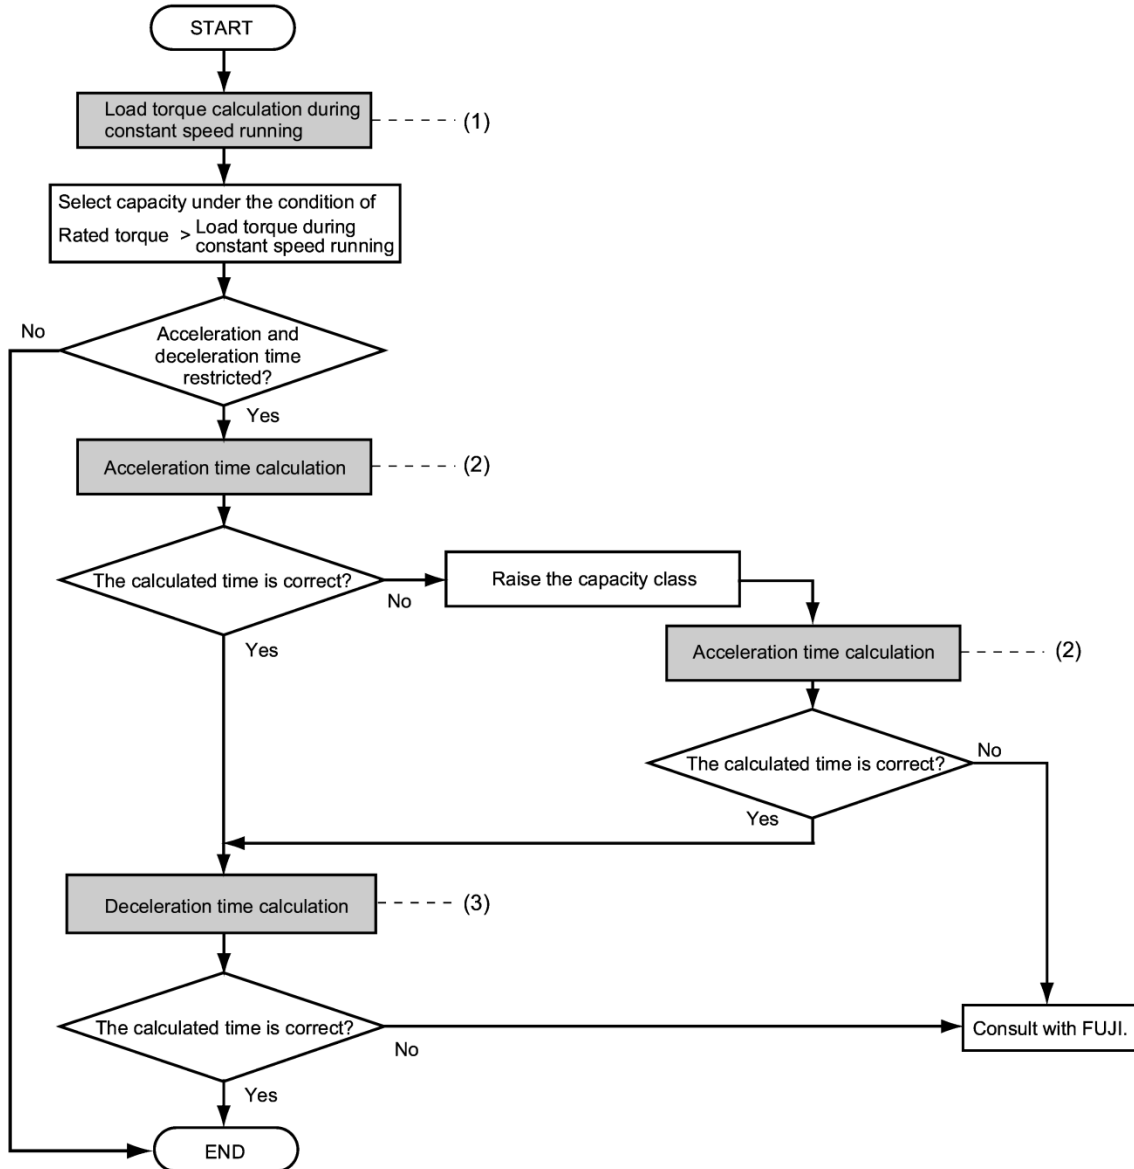

Figure 3.3 Selection Procedure
Figure 3.3 shows the general selection procedure for optimal inverters. Items numbered (1) through (3) are described on the following pages.